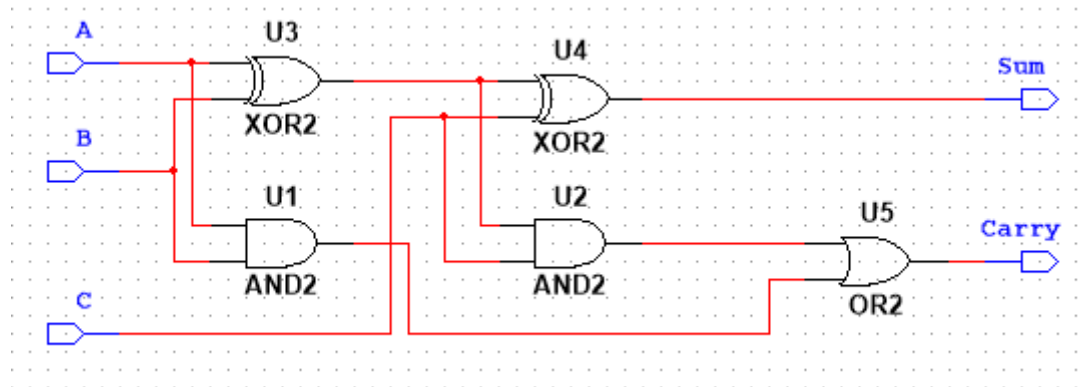

Figure 2. Full Adder Gate-Level Schematic
In this section, you will draw the schematic of a simplified full adder as shown in Figure 2.
- In the “Hierarchical Block/Subcircuit” window, click “Open subsheet”, then you will come to a new schematic work sheet with 3 inputs and 2 outputs as you have specified, rename the inputs and outputs by double click on the ports; draw the schematic shown in Figure 2.
Now your schematic should look like the one shown in Figure 2.